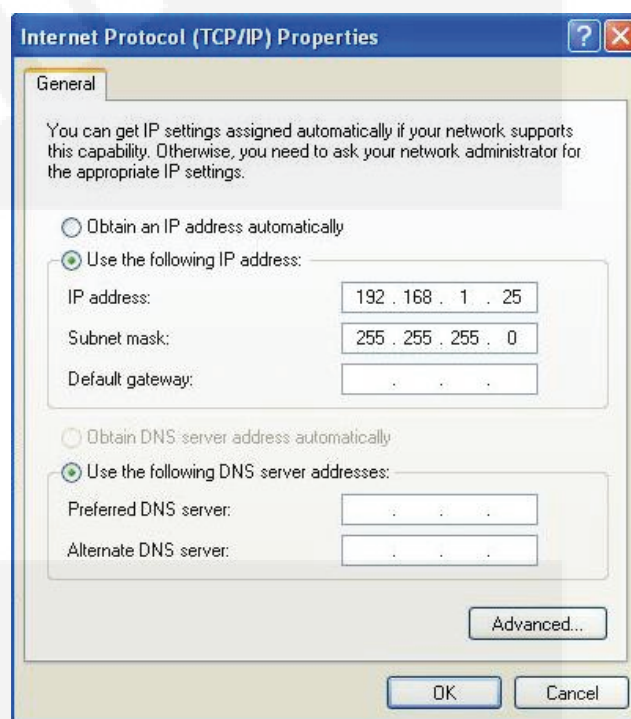

**FIGURE 4-9. LOCAL AREA CONNECTION PROPERTIES WINDOW**
3. A window is displayed (see Figure 4-9). Scroll down to “Internet Protocol (TCP/IP)”, select it, and click **Properties**.